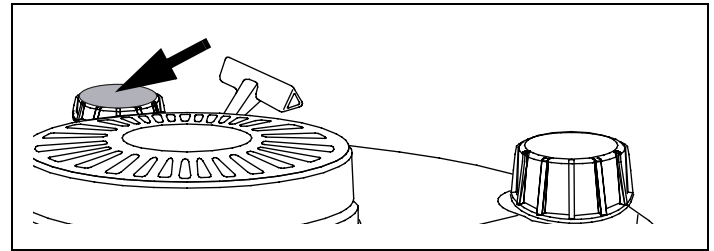

Figure 34. Oil Fill Cap Dipstick
8. Clean area around oil fill tube and oil fill cap dipstick. See Figure 34.
12. Install oil fill cap dipstick. Tighten securely. See Figure 34.